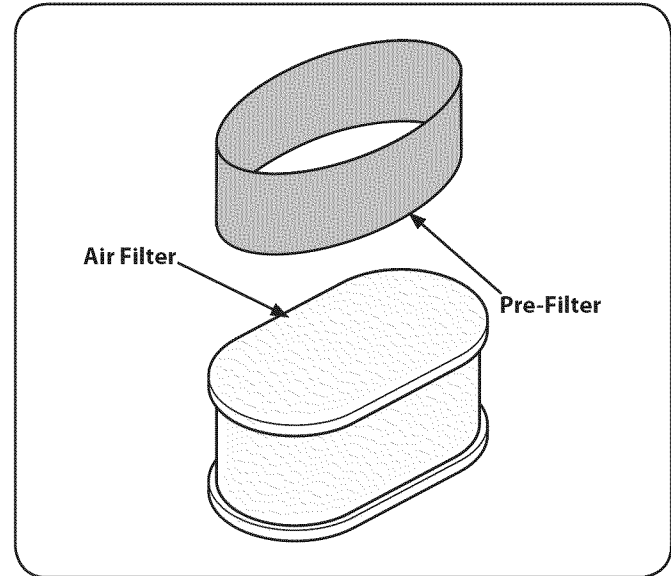

Figure 15
3. Remove the foam pre-filter from around the paper air filter. See Figure 15. Replace paper element when dirty or damaged. Clean foam element or replace when damaged.